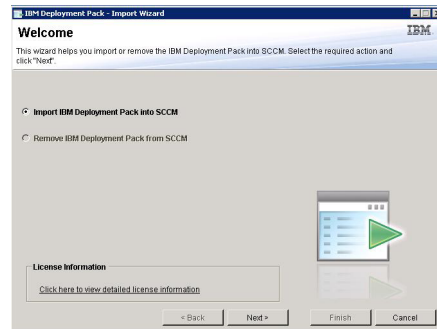

Figure 2. IBM Deployment Pack Import Wizard Welcome page
- If the product license is purchased and installed, or the product is in a trial stage, you can add new machine types, by selecting **Add new machines** on the Target System page, as shown in Figure 2. Click **Next**. The Additional SEP Packages page is displayed.